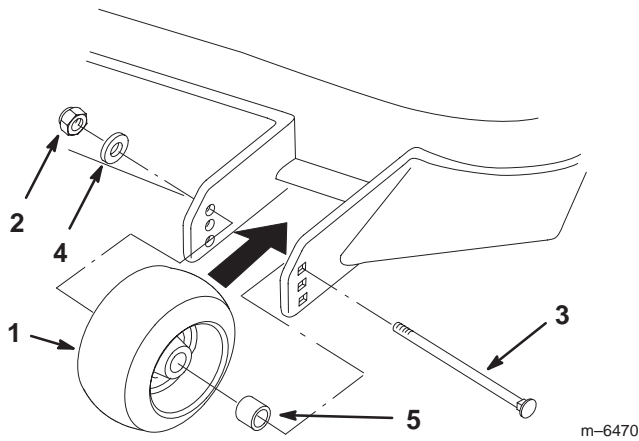

Figure 20
1. After adjusting height-of-cut, check the gage wheels so that there is a minimum of 3/8 inch (10 mm) clearance above the ground (Figures 20 and 21).
2. If adjustment is needed, remove the bolt, washer(s) and nut (Figures 20 and 21).
3. Select a hole position so the gage wheels are a minimum of 3/8 inch (10 mm) off the ground (Figures 20 and 21).
4. Install the bolt, washer(s) and nut (Figures 20 and 21).